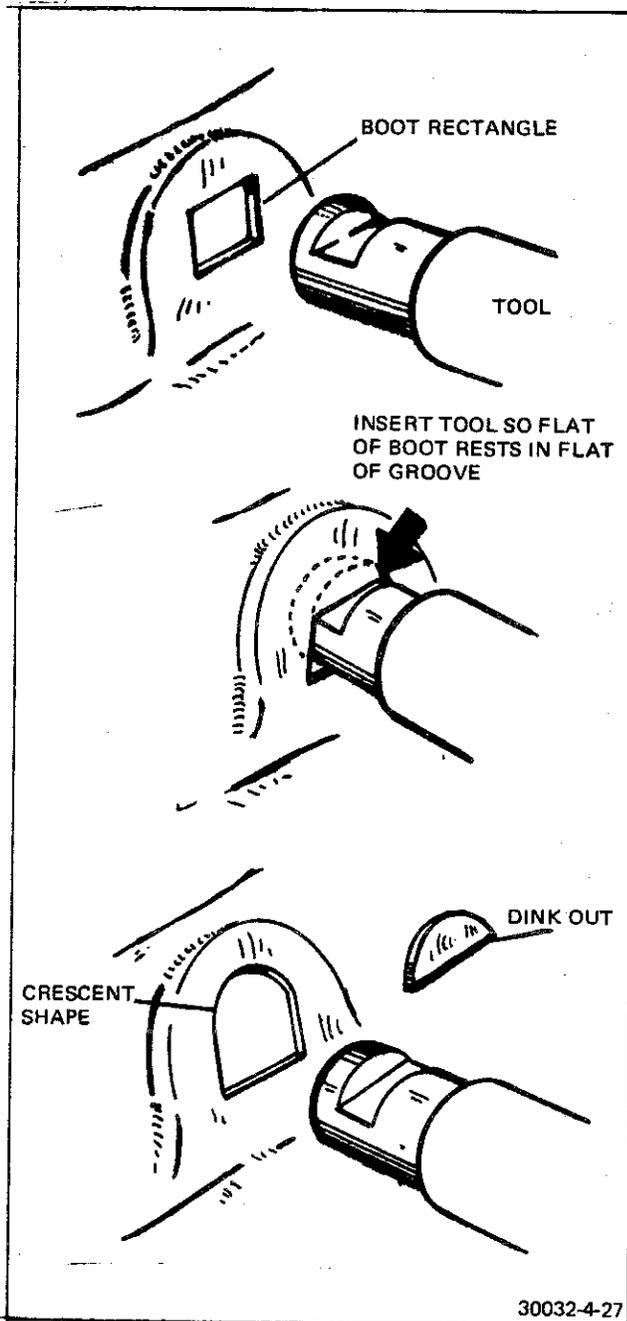

FIGURE 4-27 USING THE BOOT TRIM GUN
- a. Use the Special Tool #363361 (boot trim gun) to cut out a crescent or half moon shaped opening in the boot. Figure 4-27 gives specific instructions alongside the drawings.